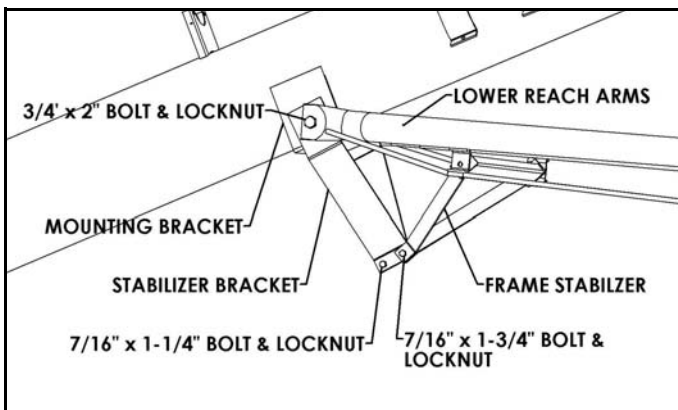

Figure 3.13
7. Position transport undercarriage beneath tube assembly and attach lower reach arms (Figure 3.13) to mounting bracket on bottom tube with 3/4" x 2" bolts and locknuts. Do not over-tighten. Tighten snug only as these bolts act as pivot points.